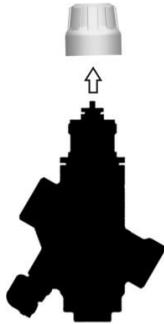

Figure 3. Remove Plastic Cap.
1. Remove the protective plastic cap from the valve. See Figure 3.